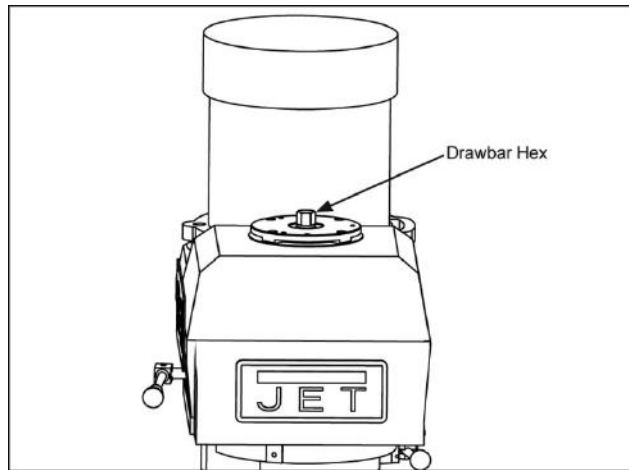

Figure 14
Referring to Figure 14:
1. Using the provided wrench, loosen draw bar two or three turns (turn counterclockwise) using draw bar hex (Figure 14).